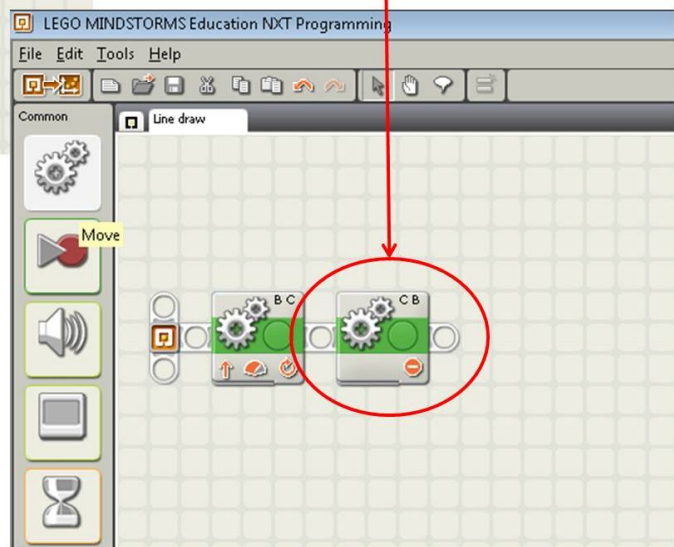

Figure 1.2
- Program to robot to move forward, as shown in Figure 1.2